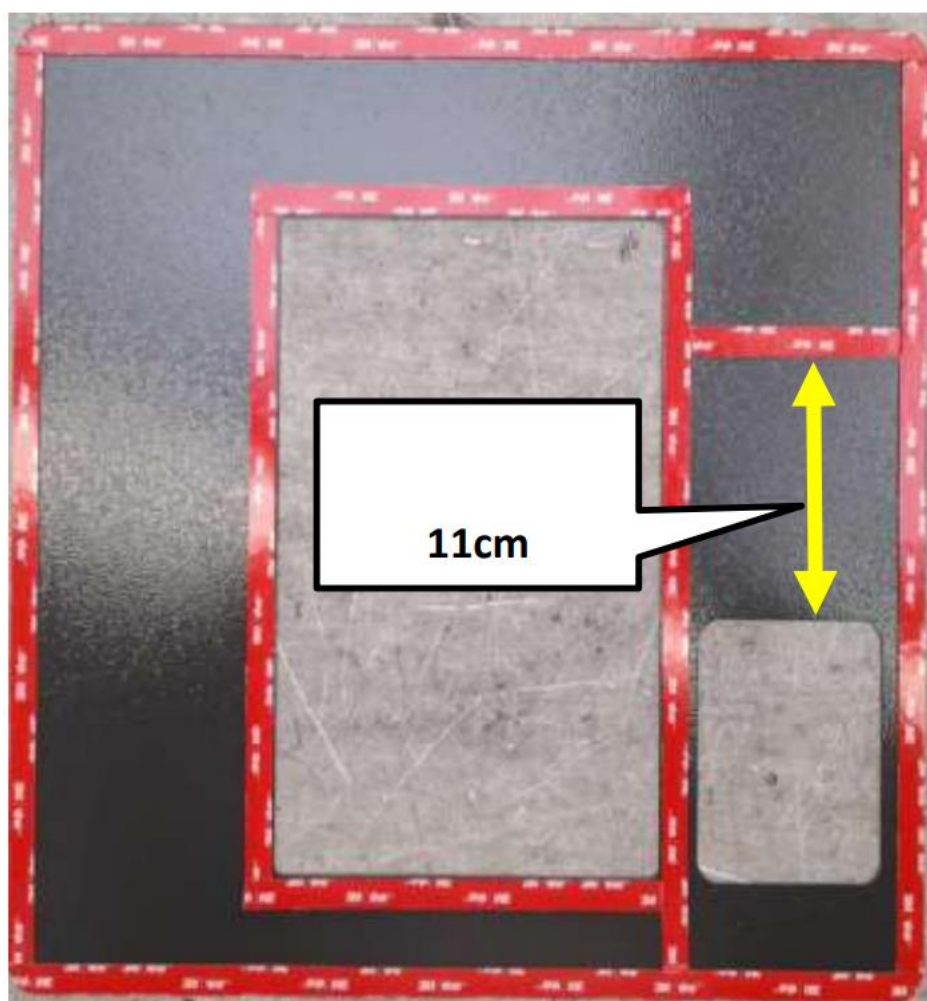

Figure 3: Display cover in Payter version with adhesive tape attached.
- Step 1 Prepare new display cover (3486840700 PLATE FRONT PAY SGCC 400*430*0.75 PAINT). Display cover should be delivered with 3M adhesive tape attached Figure 3.